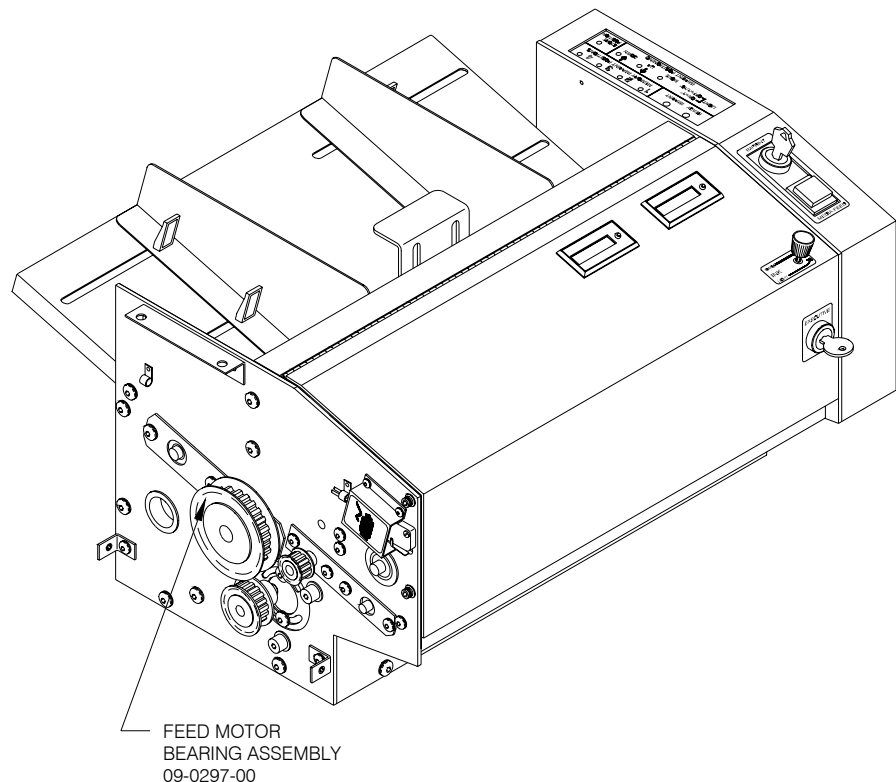

Figure 7.16 -- Feed Motor Bearing Assembly
5. Remove the FEED MOTOR BEARING ASSEMBLY. (Refer to **Figure 7.16.**)